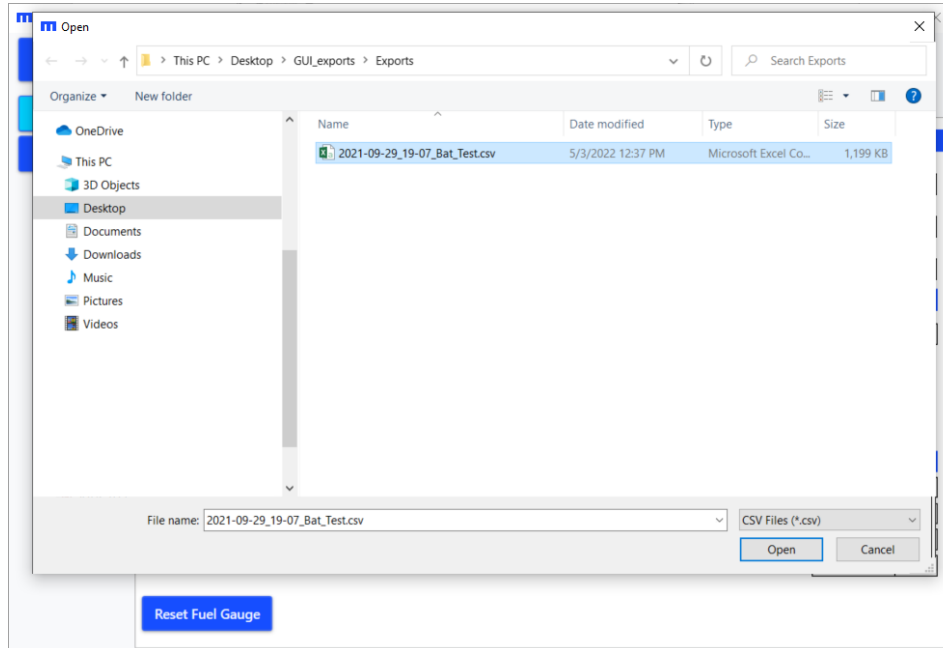

Figure 58: Virtual Fuel Gauge Select Input File
3. Select the recorded “.csv” file to re-run using the explore button (see Figure 58).